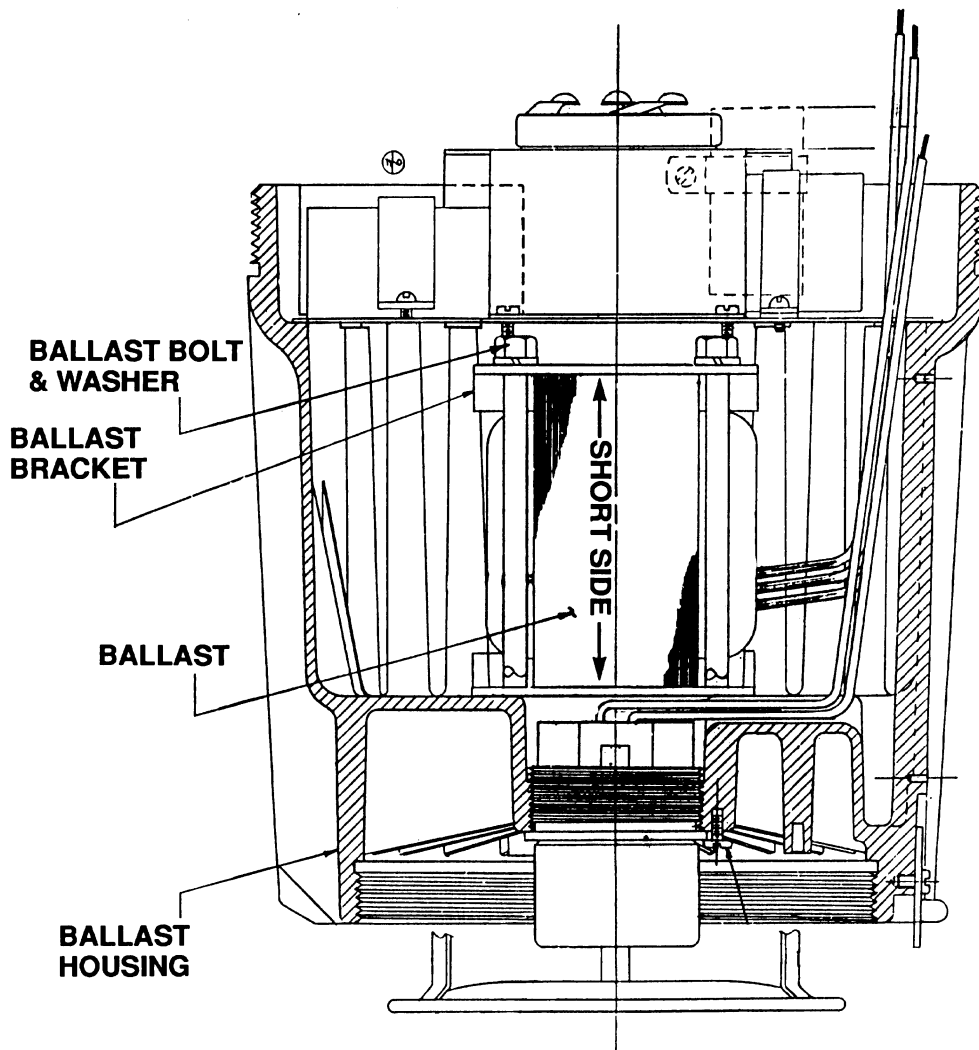

Figure 2
3. The core and coil of the ballast is secured by a flat mounting plate and four bolts and lock washers. Remove the existing bolts and discard. (see figure 2)
5. Replace the mounting plate with the four (4) 3 1/2" long bolts supplied with this IF sheet and one (1) lock washer per bolt.
6. Replace the capacitor mounting plate with the four (4) #10 pan head screws. The wiring from the ballast to the capacitor area should be carefully positioned in the cut away of the capacitor mounting plate.